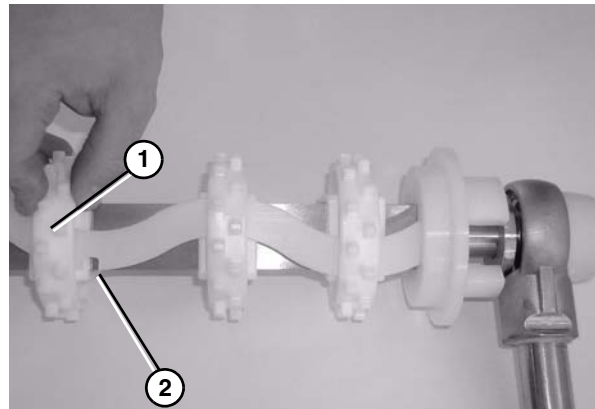

Figure 70
4. Install the remaining sprockets (Figure 70, item 1) making sure to position each sprocket with the next available notch (Figure 70, item 2) in the sprocket alignment bar.